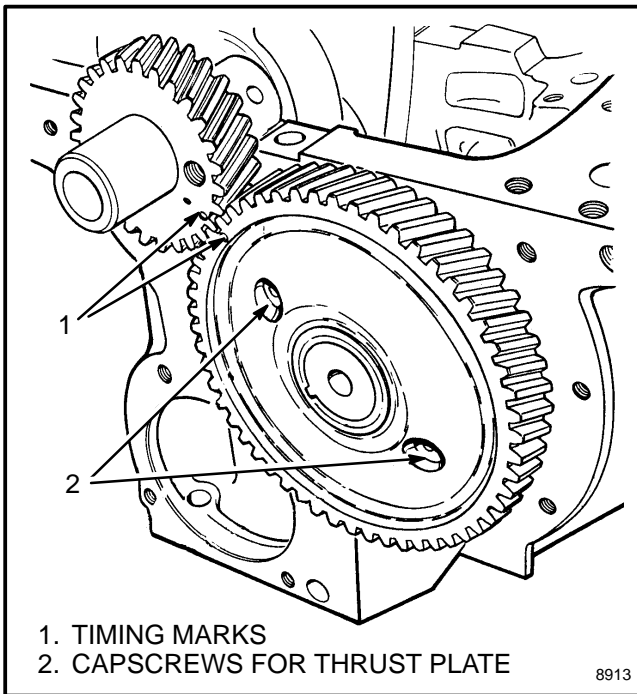

FIGURE 16. TIMING GEARS
6. Align the timing marks on the timing gears as shown in FIGURE 16. On engines with holes in the timing gear, remove the two capscrews that hold the thrust plate to the engine block. On engines with a capscrew for the timing gear, remove the capscrew and the gear. Remove the two capscrews for the thrust plate.